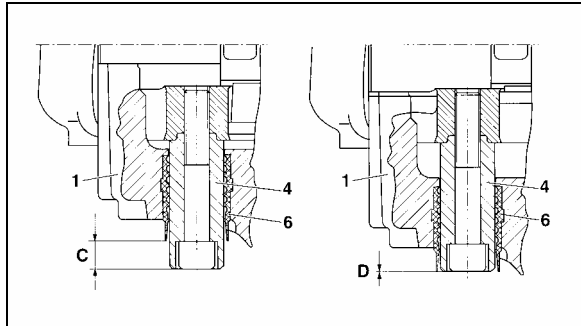

FIGURE 24: BRAKE PAD CHECK
Brake pads have to be checked on a regular basis depending on the vehicle operation. The remaining thickness of the pads should never be less than 3/32 in (2 mm). To check pad condition without removing the wheel, verify the position of guide bushing (6) relatively to guide sleeve (4) (see Fig. 24). When guide sleeve is in alignment with guide bushing, brake pad thickness has to be checked more precisely with the wheel removed. When replacing brake pads, all four pads on an axle have to be changed at